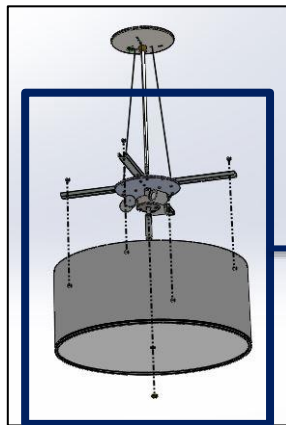
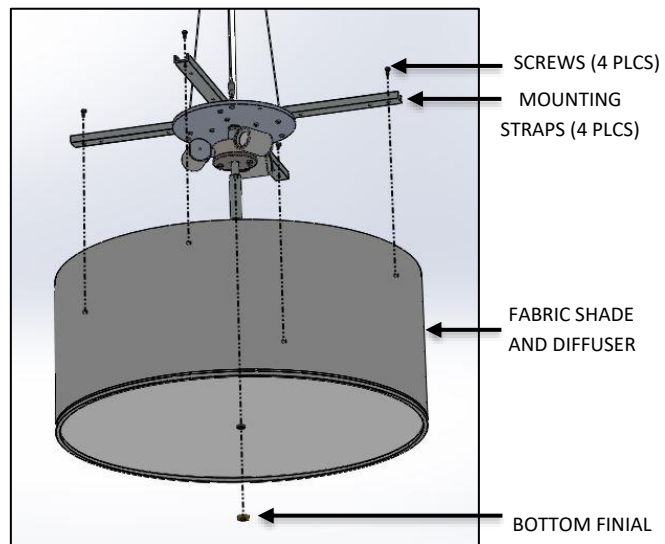

FIG. 25 – FABRIC SHADE AND DIFFUSER INSTALLATION
FIG. 26 – DETAIL SHOWING FABRIC SHADE AND DIFFUSER INSTALLATION
12. Unscrew the BOTTOM FINIAL from BOTTOM STEM ASSEMBLY. Attach FABRIC and DIFFUSER to the MOUNTING STRAPS and secure with the SCREWS provided as shown in FIG. 25. Make sure the center stem is lined up with the hole in the DIFFUSER and attach to BOTTOM FINIAL as shown below in FIG. 26.